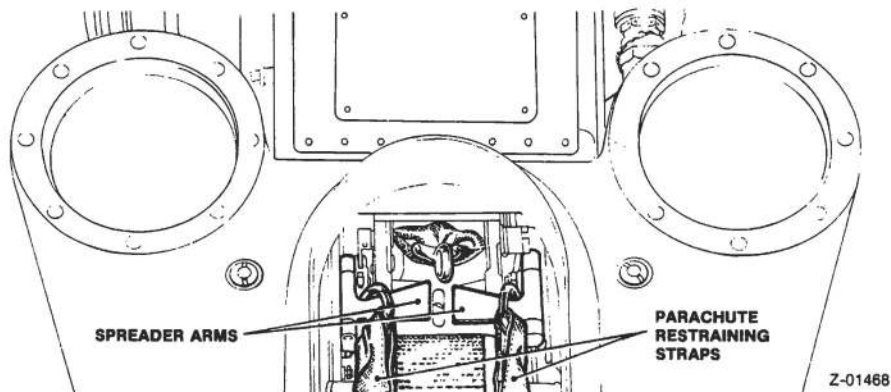

Fig 7 Attachment of parachute restraining straps to spreader arms
► 24.10 Open the spreader arms situated in front of the top harness lock and pass the O-rings of the two lower parachute restraining straps one over each spreader arm. Push each O-ring well back towards the pivot end of its spreader arm and close the arms inwards towards each other as far as they will go (fig 7).